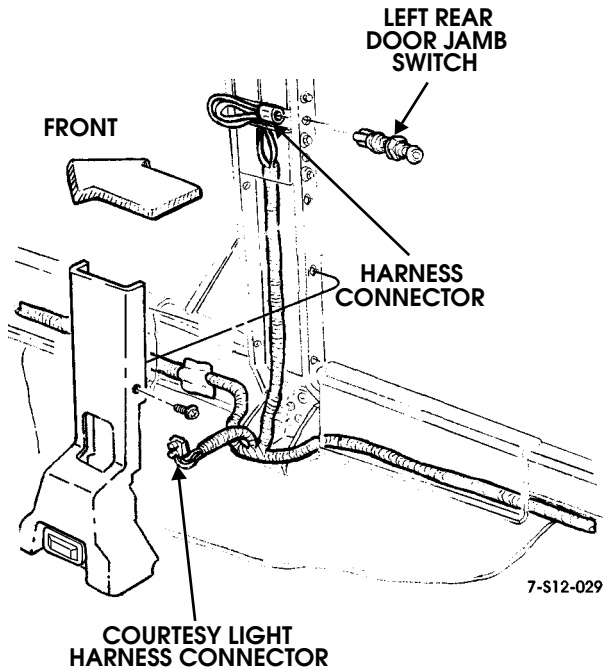

Figure 12-106: Seatbelt Connector
- Disconnect roof harness connector from seat belt buckle switch (Figure 12-106).
10. Connect roof harness connector to left rear door jamb switch (Figure 12-106).